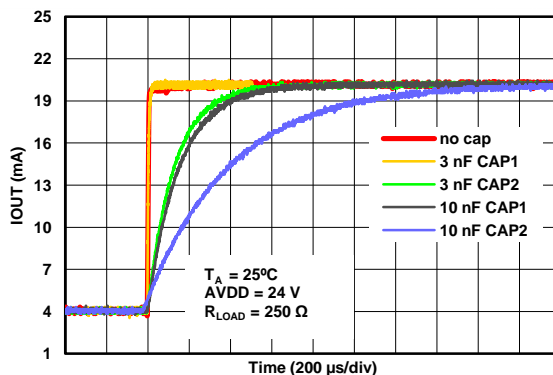
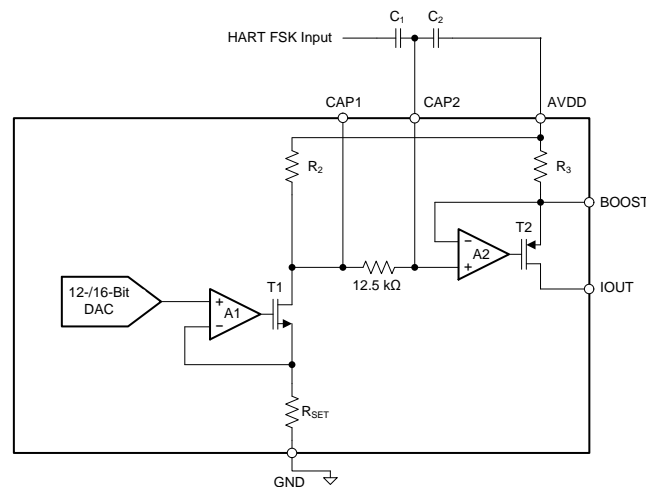

Figure 89. IOOUT vs Time for Different Cap Values on CAP1 and CAP2
Figure 94. Implementing HART on IOUT Using the CAP2 Pin
The QFN package provides access to internal nodes of the circuit as shown in Figure 94. Capacitors can be placed on these pins and AVDD to form a filter on the output current, reducing bandwidth and the slew rate of the output. However, to achieve large reductions in slew rate, the programmable slew rate can be used to avoid having to use large capacitors. Even in that case, the capacitors on CAP1 and CAP2 can be used to smooth out the stairsteps caused by the digital code changes as shown in Figure 89. However, note that power supply ripple will also couple into the part through these capacitors.
The first method of implementing HART is to couple the signal through the CAP2 pin, as conceptualized in Figure 94. Note that this pin is only available in the QFN-40 package.
In Figure 94, R_3 is nominally 40 Ω , and R_2 is dependent on the current output range (set by the RANGE bits) as described below:
1. As is seen in Figure 94, CAP2 is directly connected to the input of the final IOUT amplifier. Any noise or unwanted ac signal routed near the CAP1 and/or CAP2 pins could capacitively couple onto internal nodes and affect IOUT. Therefore, with the QFN package, it is important to avoid routing any digital or HART signal trace over the CAP1 and CAP2 traces.